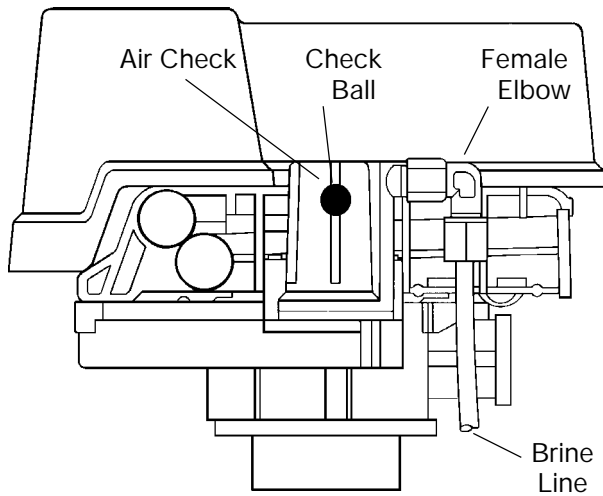

Figure 7
- B. Carefully advance pointer knob **COUNTERCLOCKWISE** to center of **FAST RINSE/REFILL** position and hold there until air check (Figure 7) fills with water and water starts to flow through brine line into brine tank. Do not run for more than 2 minutes.